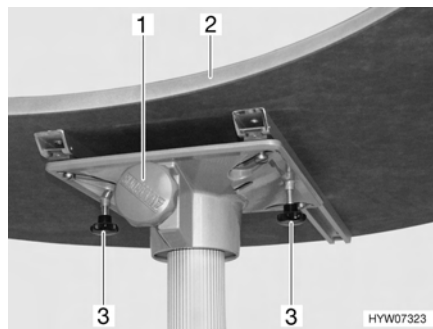

Fig. 23 Fixed table for the round seating group
- Undo the knurled screw (Fig. 23,1).
- Rotate the table-top (Fig. 23,2) into the desired position.
- Undo the knurled screws (Fig. 23,3).
- Rotate the table-top (Fig. 23,2) and push table-top on the rails into the desired position.